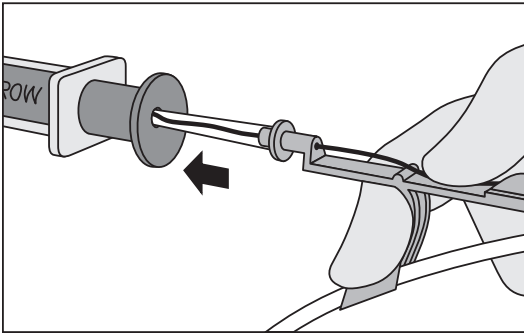

Figure 4
- Place tip of Arrow Advancer™ – with "J" retracted – into the hole in rear of Arrow® Raulerson Syringe plunger (refer to Figure 4) or introducer needle.